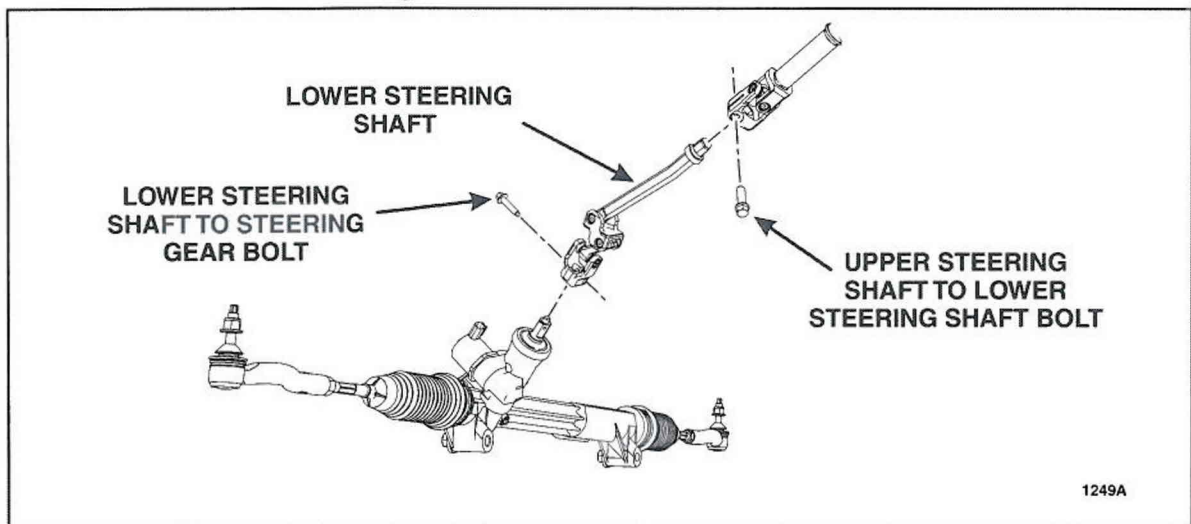

FIGURE 1
2. Remove the lower steering shaft. See Figure 1.
3. Install a *new* lower steering shaft. See Figure 1.